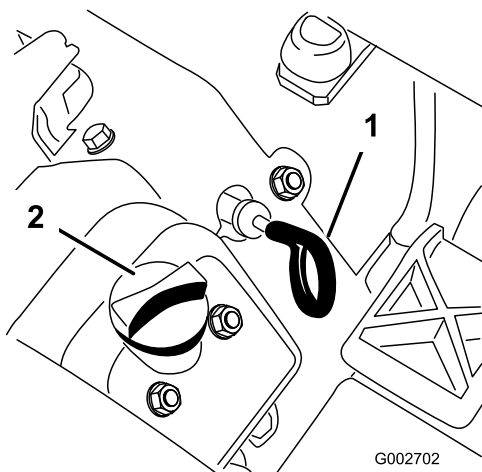

Figure 25
3. Pull out the dipstick (Figure 25) and wipe it with a clean rag.